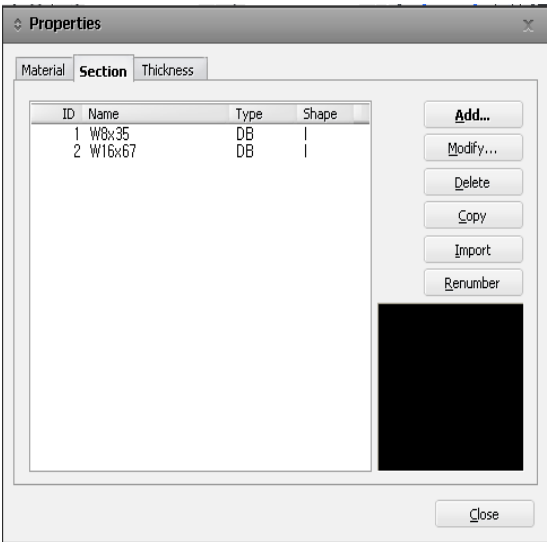

Figure 1.6 Dialog box for Section Properties
2. Click  shown in Fig.1.6.
7. Select the **Section** tab on the top of the **Properties** dialog box (Fig.1.6–).
18. Click  in the **Properties** dialog box (Fig.1.6).